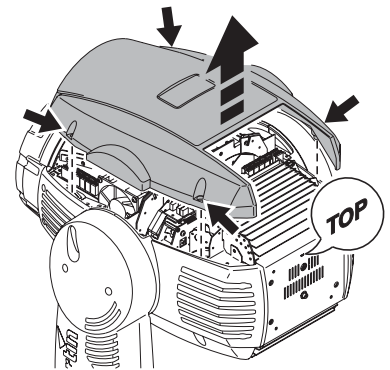

Figure 1
2. See Figure 1. Release the head cover retaining screws (arrowed), unclip the head cover safety cables and remove both head covers.